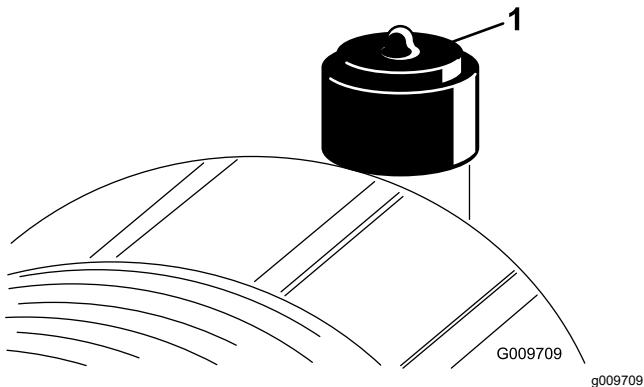

Figure 50
Service the air-cleaner filter only when the service indicator (Figure 50) requires it. Changing the air filter before it is necessary only increases the chance of dirt entering the engine when you remove the filter.
2. Reset the indicator (Figure 50) if it shows red.